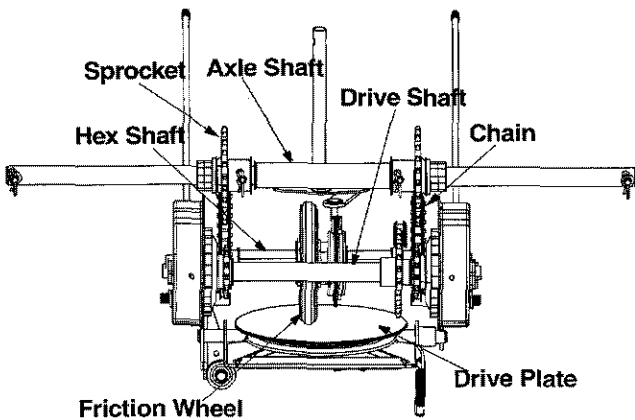

Figure 12
- With traction control engaged, make sure friction wheel contacts the drive plate. See Figure 12.
Lubricate the gear shaft with 6-in-1 grease (part number 737-0170) at least once a season, or after every 25 hours of operation. Refer to Figure 12.